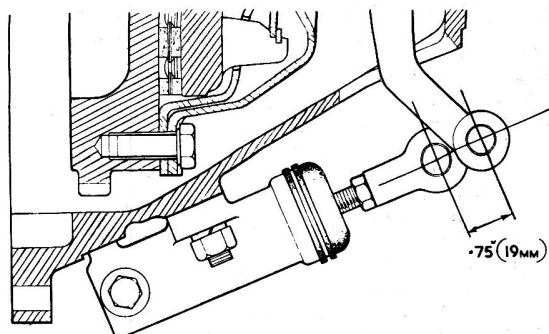

Fig.5.25. Setting dimension - Hydrostatic slave cylinder
- The hydrostatic slave cylinder as fitted to later model cars can be identified by the absence of the return spring as fitted to the previous slave cylinder body. When refitting the hydrostatic slave cylinder it is important that the operating rod adjustment dimension as shown in Fig.5.25, is obtained. Proceed as follows: